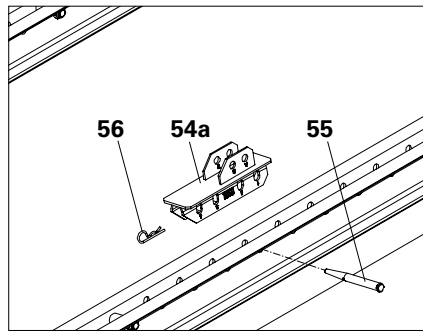

Fig. C2.03a
2. Fit the first Prop Adapter MP SRU (**54a**) on a Steel Waler SRU with filler pin (**55**) and cotter pin (**56**). (Fig. C2.03a)